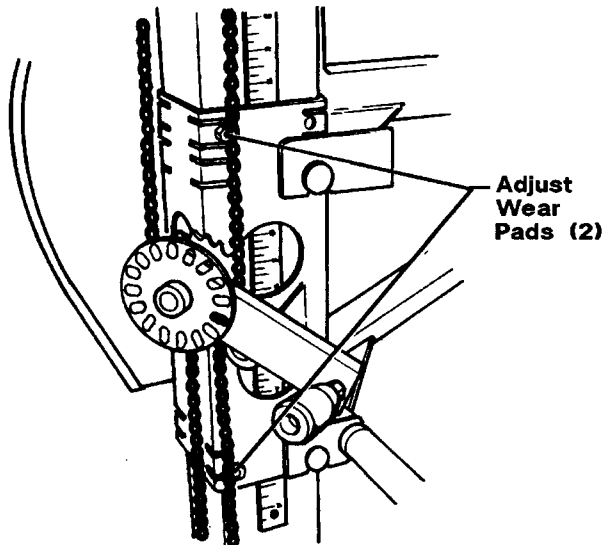

FIG 4-4
5. Adjust the wear pads on the vertical mast if there becomes noticeable side-to-side movement of the cutting head (See Figure 4-4).